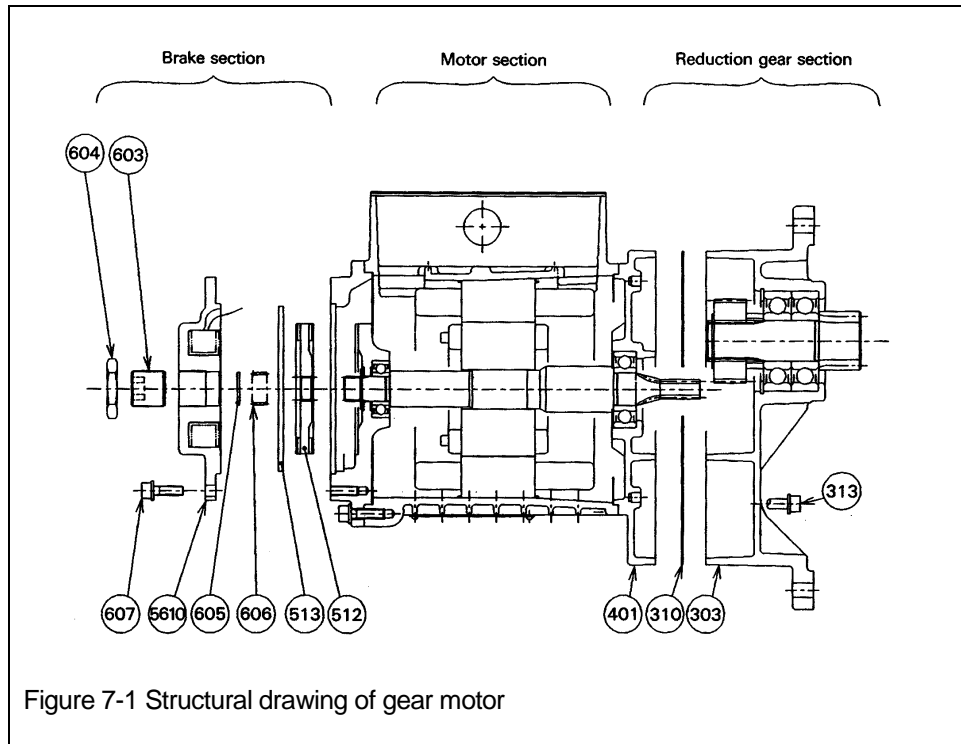

Figure 7-1 Structural drawing of gear motor
- b) To clean and lubricate the reduction gearing in the gear motor refer to Figure 7-1 and disassemble as follows:
- (1) Detach the socket bolts 313.
- (2) Disassemble gearbox A 303 from gearbox B 401.
- (3) Remove gearbox packing 310.
- (4) Clean components and re-lubricate using an approved lubricant from Table 6-1 in Section 6.
- (1) Reassemble in reverse order of the disassembly procedure.
- (2) Coat the threaded portion of the socket bolts 313 with, Loc-Tite, or similar glue.
- (3) Once assembled, free the brake and ensure that the gears are meshed properly by turning the pinion by hand.
- b) To clean, lubricate and adjust the brake in the gear motor refer to Figure 7-1 and disassemble as follows:
- (1) Remove the electromagnetic coil assembly 5610 by detaching the socket bolts 607.
- (2) As the electromagnetic coil assembly 5610 is wired to the terminal box of the motor, be careful when handling the wiring.
- (3) Remove the spring holder 605, brake spring 606, armature 513 and brake disk 512.
- (4) Lightly grease the spline of the brake disk 512 and sliding parts of the armature 513 with MORISPEED grease No. 2 or similar.
- (5) Inspect the brake disc for wear and replace if necessary. Refer to Tables 5.3 and 5.7. Do not allow grease or oil on the brake disc surface.